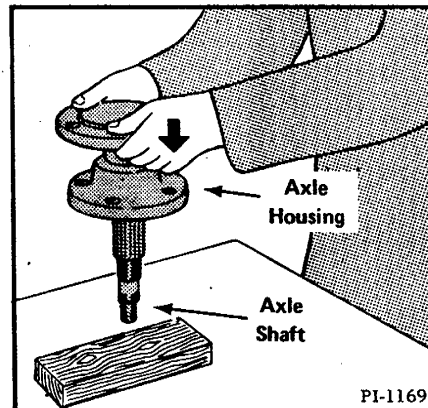

Fig. 4-33 Removing Axle Hub
(1) Remove the axle housing from the axle shaft by hitting the end of the axle on a block of wood (Fig. 4-33).